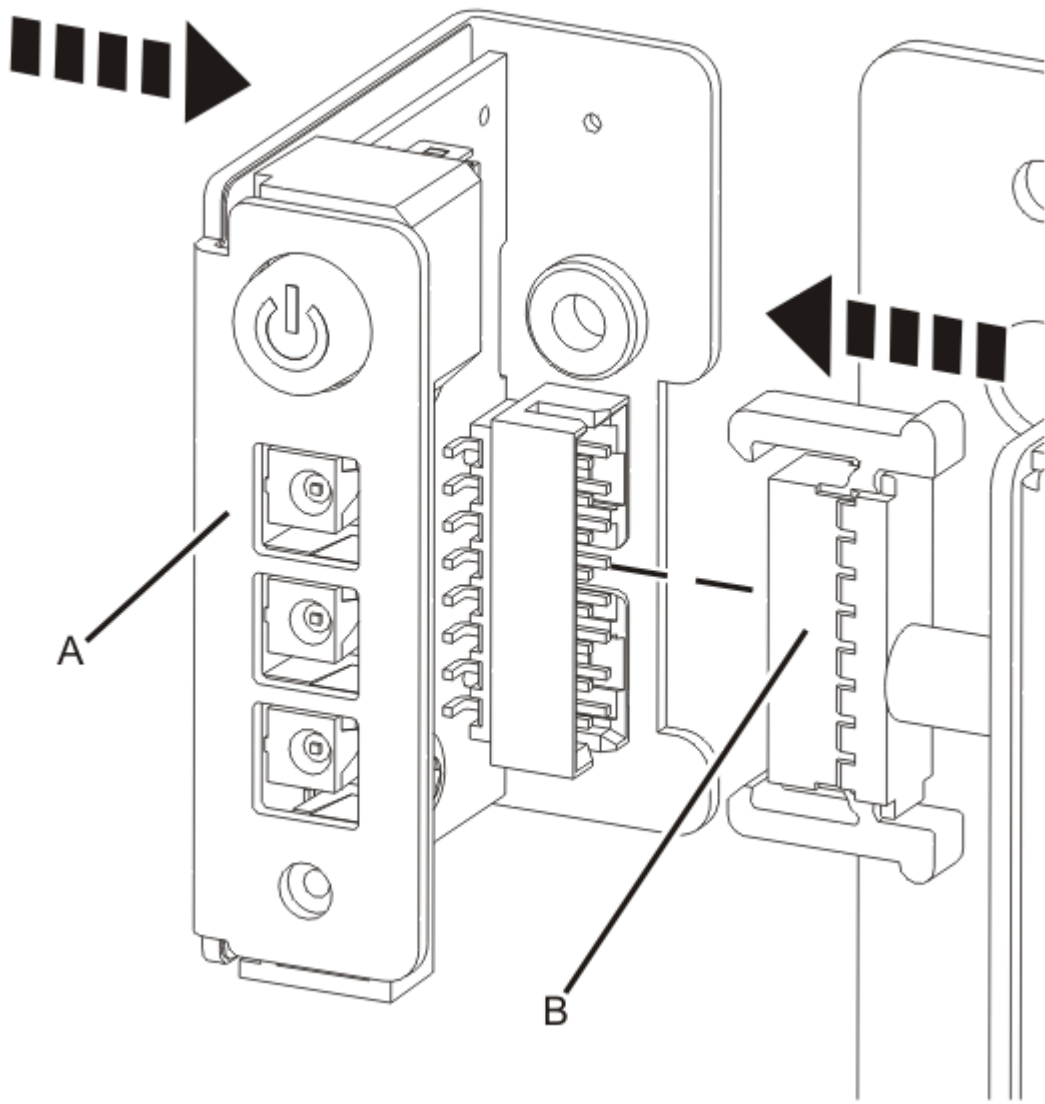

Figure 21. Connecting the control panel and cable for a rack-mounted system
2. Connect the control panel (**A**) to the control panel cable (**B**) as shown in Figure 21 on page 23 or Figure 22 on page 24.